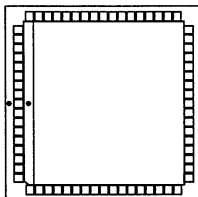

Figure 13 081038 Firmware
- a. Orient firmware by aligning the dot and bevel on IC (indicating pin 1) to the dot on socket. (Some firmware has only a bevel indicating the side where pin 1 is located.) See Fig. 13. Be careful not to bend any pins during installation.